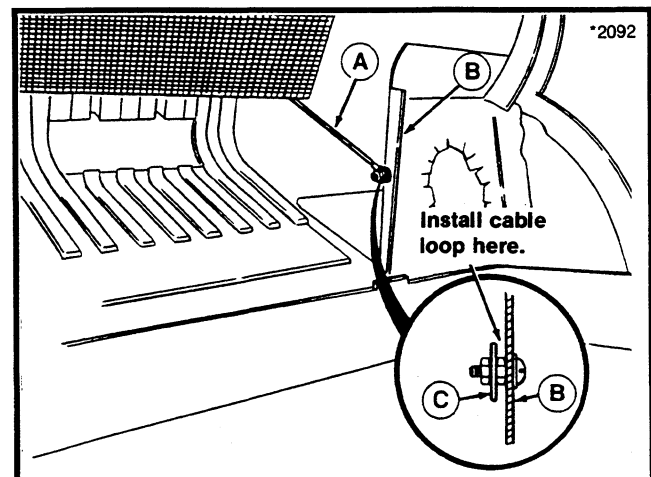

Figure 7.
8. Open cover and fasten cable (A, figure 7) to tube support (B) to prevent cover from going overcenter when opened. Loop end of cable fits over washer (C).